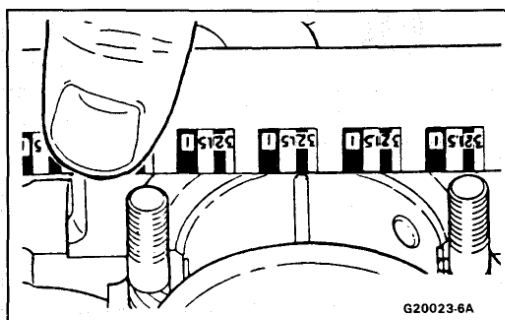

Figure 42 Measuring Bearing Clearance
6. Measure the gaging plastic at its **widest point** with the scale printed on the gaging plastic package (Figure 42).